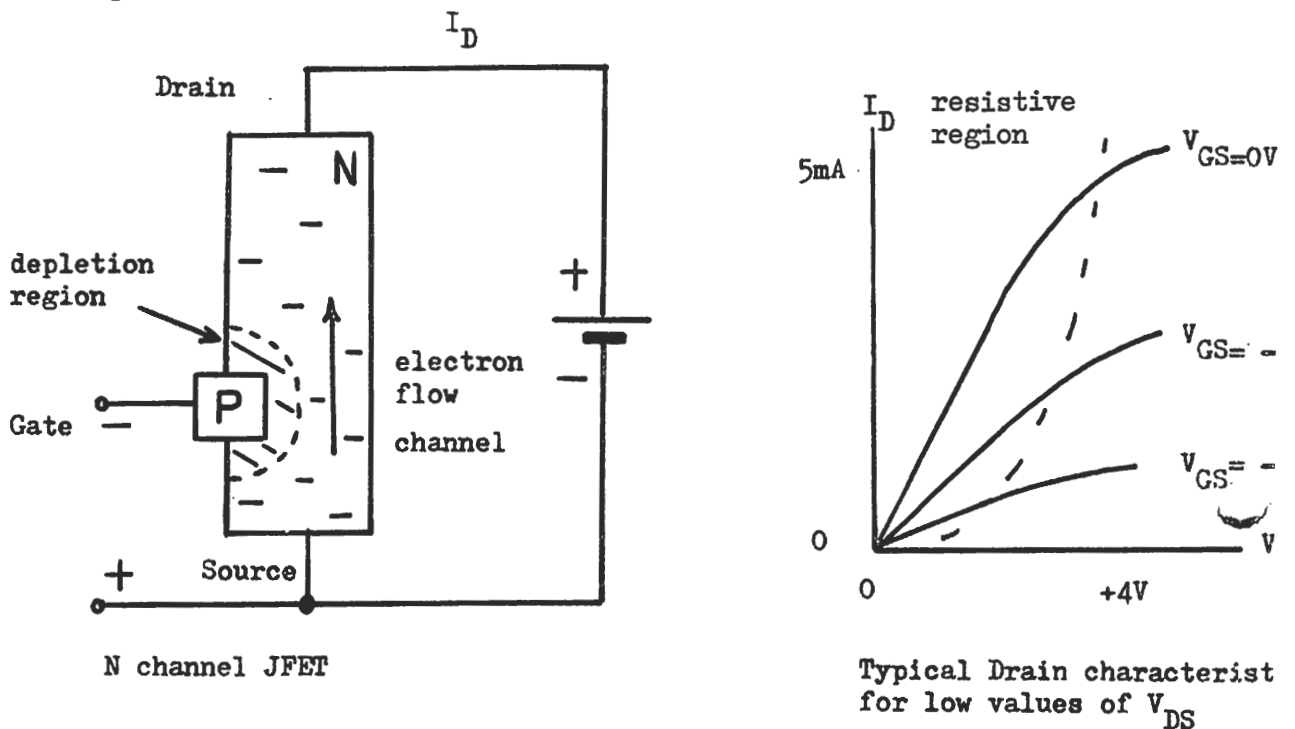

Figure 8: JFET Circuit Action
7.3 Figure 8 shows diagrammatically how a JFET works. The width of the depletion region depends on the potential between gate and source. As the gate potential is made more negative with respect to the source, the depletion region becomes wider. This reduces the width of the channel linking the source to the drain. At low values of drain-source voltage ( $V_{DS}$ ) the transistor acts as a fixed resistance between source and drain, the value of which depends on the gate
source voltage. The drain characteristics shown in figure 8 illustrate this point. In the resistive region to the left of the dotted line the characteristics approximate to straight lines.